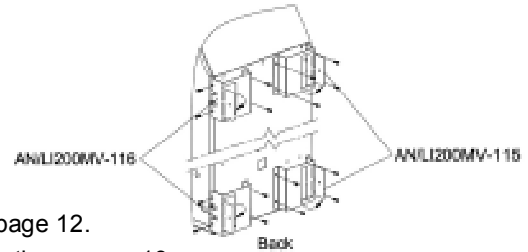

Figure 6 – Nailing Flanges
2. Carefully set fireplace in rough opening. Once in place nail or screw the nailing brackets to the framing. See Figure 6 for nailing flanges position.